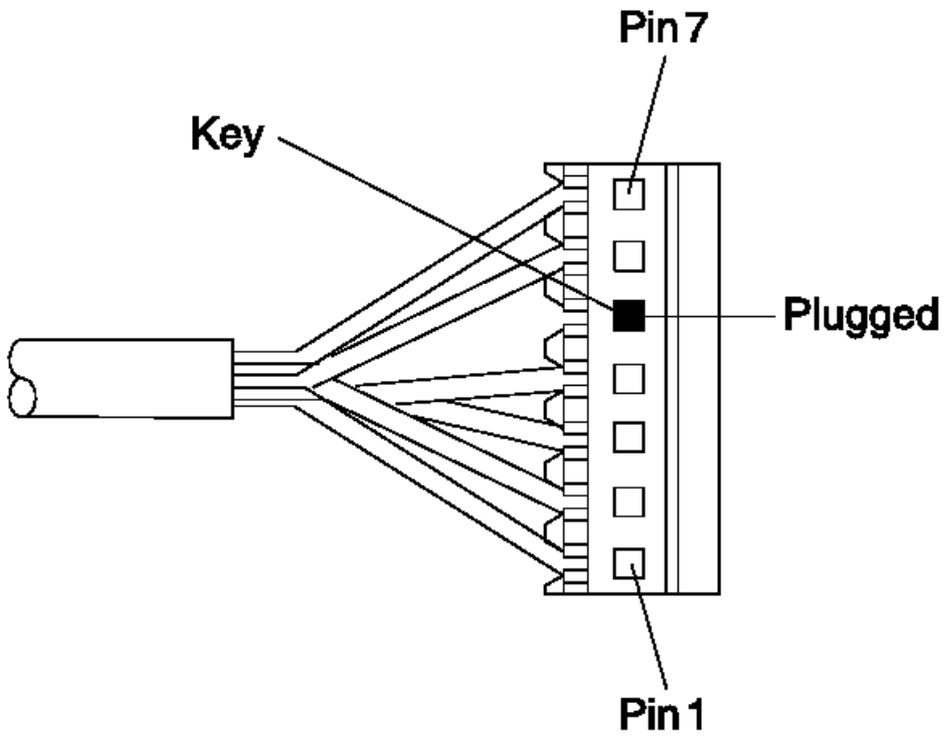

Figure 6-36. Transport Motor Cable Connector
- Determine if your printer has a belt drive transport or a helix drive transport. See Figure 6-36 for the locations of the cable connector pins.